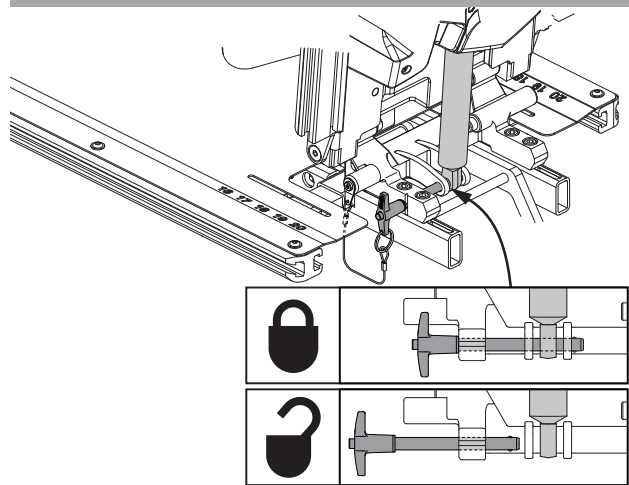
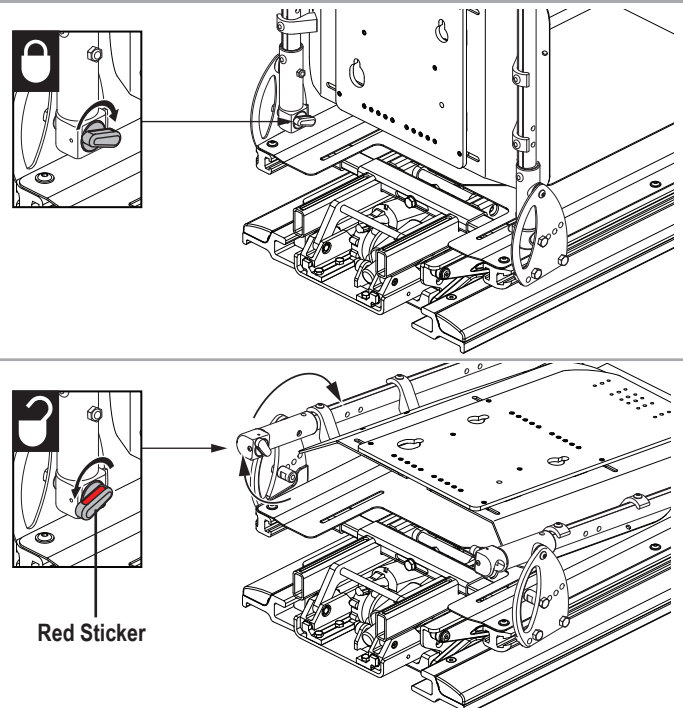

Figure 7. Flip-forward Back (Detent Pin)
Figure 8. Flip-forward Back (Release Lever)
2. Remove the detent pin (**see figure 7**) OR rotate the release lever on both back canes toward the rear of the seat to disengage the back. **See figure 8.**
2. Reinstall the detent pin and ensure all components are secure (**see figure 7**) OR rotate the release lever on both back canes toward the front of the seat to latch the back canes. Ensure a red sticker on the release lever is not visible. **See figure 8.**